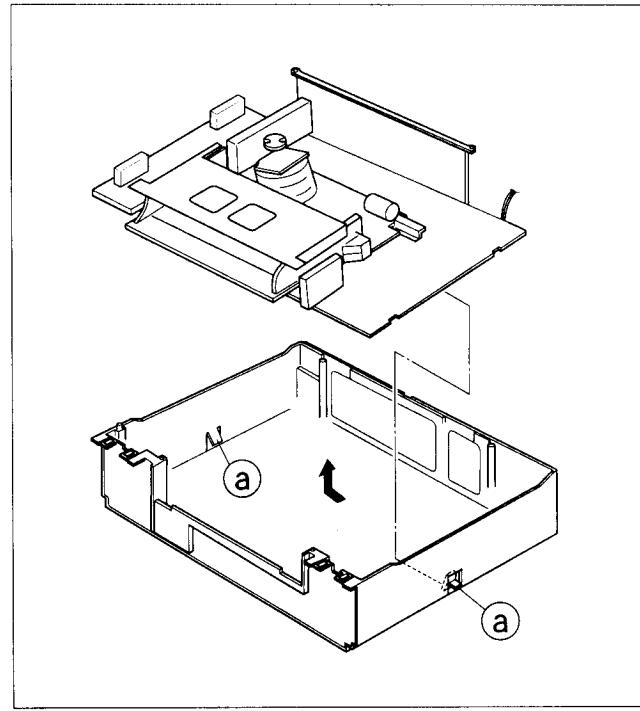

Fig. 1-3-2
- (3) Disengage 2 claws (a) from the chassis.
- (4) Remove the Mechanism assembly (including Cassette housing) and Main board assembly out of the chassis as shown in Fig. 1-3-2.